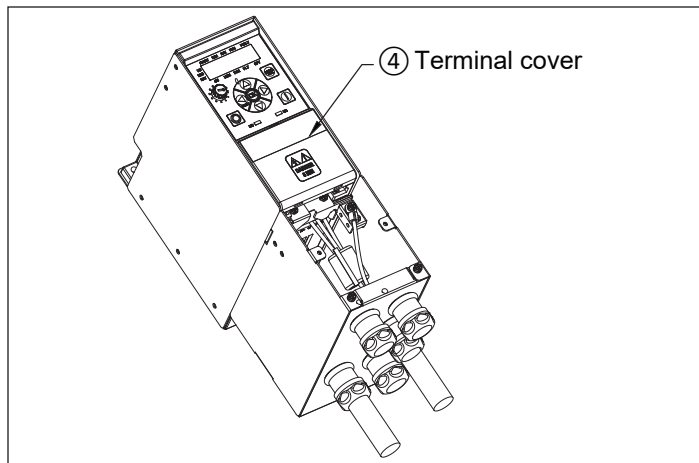

Figure 9. Reinstalling the terminal cover.
Mount the terminal cover ④ back to the drive (see Figure 9).